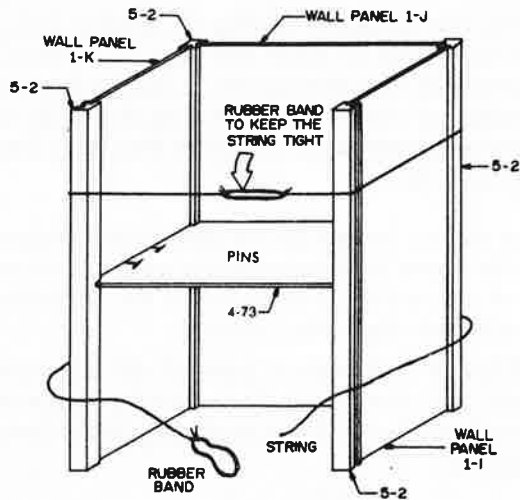

FIG. 30
16. ☐ Apply glue to the remaining corner post grooves, and assemble the walls in their proper positions as shown in Figure 30. Be sure all panels are fully seated in the corner post grooves.